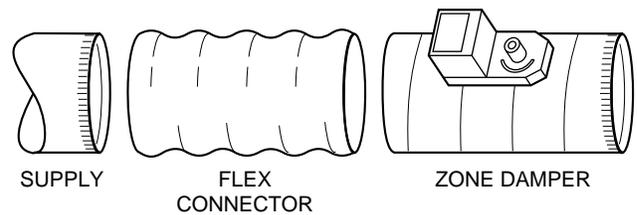

Fig. 8—Round Metal Duct Work A95129
2. Slip end of zone damper over end of duct work. Use self-tapping sheet metal screw to secure. (See Fig. 8.)